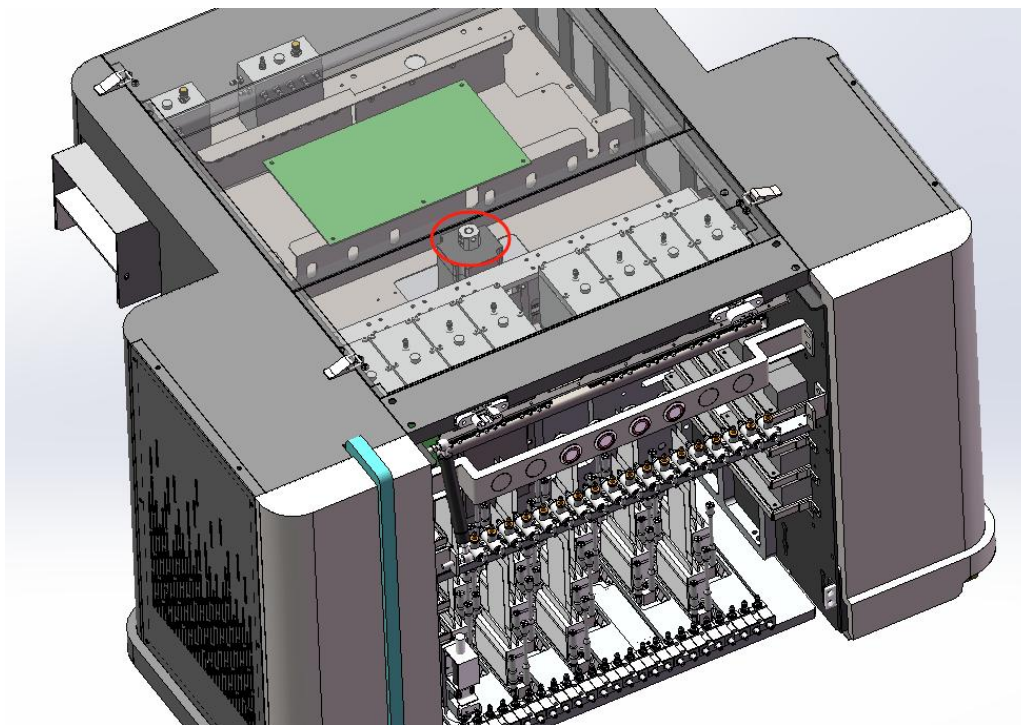

Fig. 69: Z-direction lifting hand wheel base
Figure 69 shows the position of adjusting screws on the print head base plate. By fastening the locking screw, the base plate can be pushed downward to the platform. By fastening the fixing screw, the base plate can be pulled upward and get further from the platform.
Step 2: Lower the carriage to make it about 2mm from the print head base plate to the mesh belt surface, and use the manual lift wrench in the accessory box to rotate the hand wheel seat at the tail of the motor in the Z direction (see Figure 69 for the position).